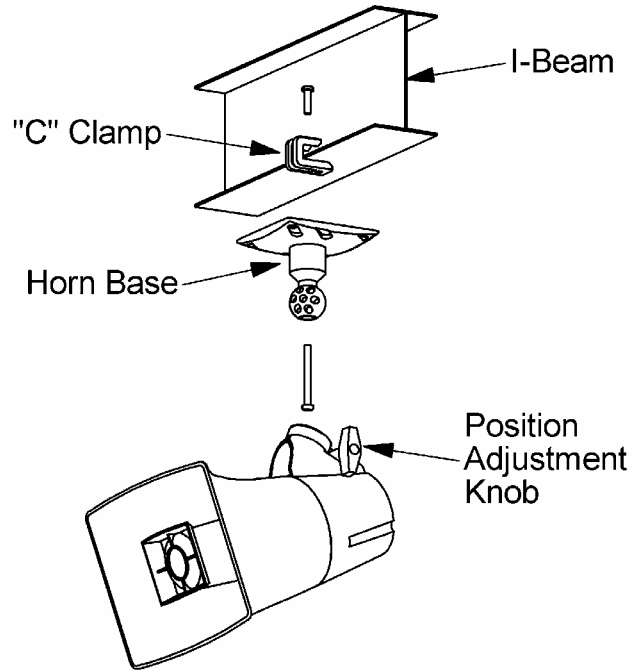

Figure 1- Mounting to a Beam with a "C" Clamp
- A "C" clamp is provided with the horns to allow mounting to a beam. Place the bolt through the hole in the bottom of the base to secure the "C" clamp to the beam (See Figure 1). It is suggested that the horn be mounted to the underside of the "I" beam so as to provide the maximum of positioning adjustments.
The horns may be rotated or moved up and down to obtain the desired position by loosening the position adjustment knob (See Figures 1 and 2) at the bottom of the unit approximately 1 turn. Make required adjustments and re-tighten knob.